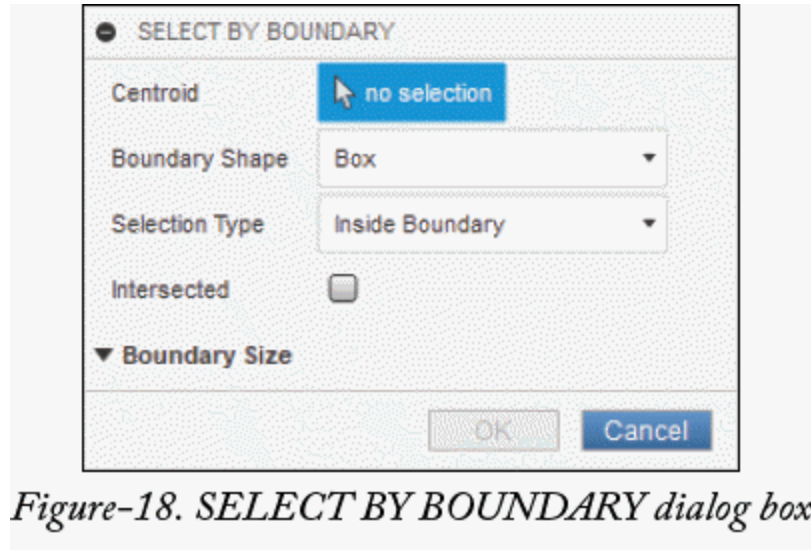

Figure-18. SELECT BY BOUNDARY dialog box
- Click on the **Select By Boundary** tool from the **Selection Tools** cascading menu of **SELECT** drop-down. The **SELECT BY BOUNDARY** dialog box will be displayed; refer to Figure-18.